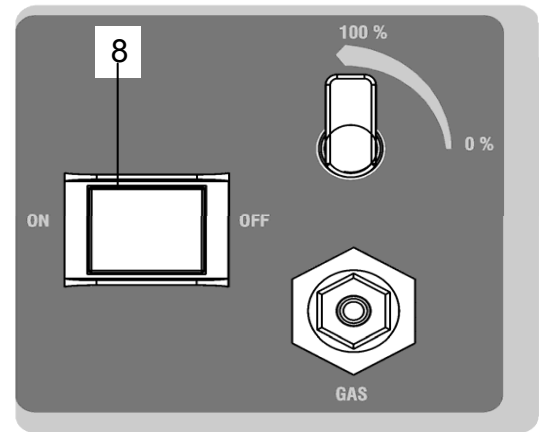

Fig. 4.1.2
All the following functions and adjustments must be performed with the machine powered (main switch ref. 8 fig. 4.1.2 in position ON) and the board switched to OFF (the display will intermittently read OFF and the DATE and TIME). If the board is on, switch it off before you perform the following operations, by pressing the key ref. 1 fig. 4.1.1